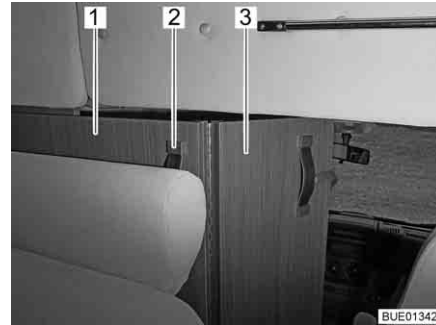

Fig. 51 Driver's cabin partition
- Grip the handle (Fig. 51,2) of the driver's cabin partition (Fig. 51,1) and pull it inwards until the edge of the driver's cabin partition is roughly level with the backrest of the bench seat (Fig. 51).
- Fold out the folding part of the driver's cabin partition (Fig. 51,3) between the seats of the driver's cabin.